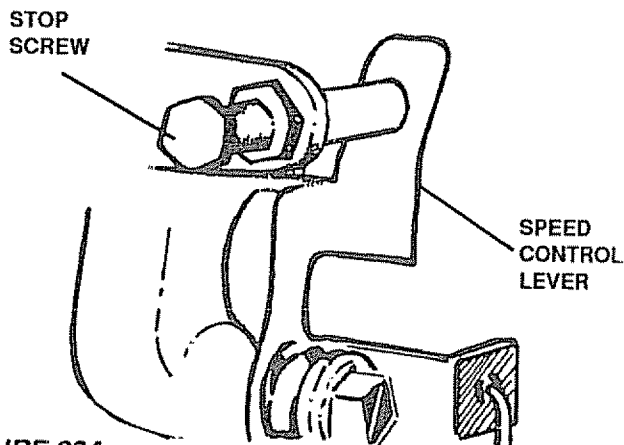

FIGURE 30A
- d. Pull throttle cable tight (until speed control lever (Fig. 30A) is against stop screw (Fig. 30A)). Retighten casing clamp screw.